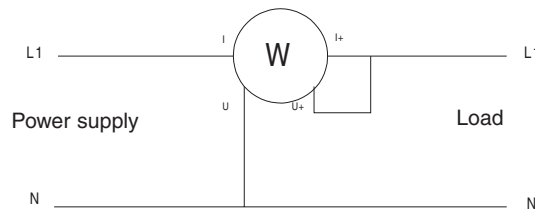
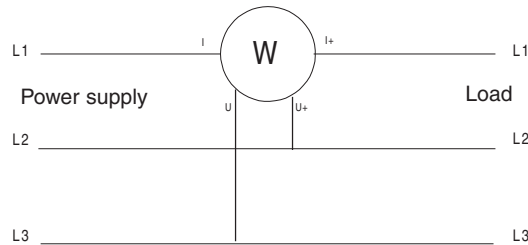

Fig 4.4.1 Single-phase connection diagram
Fig 4.4.2 Three-phase/balanced wires (T3FE) connection diagram (PX 120 only)
Set up as indicated in the connection diagrams in Fig.4.4.1 (single phase) or Fig.4.4.2 (balanced three-phase, T3FE only PX 120), depending on the case, making sure if possible that the maximum acceptable limits are not exceeded (see table below).
3. Set up as indicated in the connection diagrams in Fig.4.4.1 (single phase) or Fig.4.4.2 (balanced three-phase, T3FE only PX 120), depending on the case, making sure if possible that the maximum acceptable limits are not exceeded (see table below).
3. Set up as indicated in the connection diagrams in Fig.4.4.1 or Fig.4.4.2 (T3FE only PX 120), depending on the case, making sure if possible that the maximum acceptable limits are not exceeded (see table below). Range switching is automatic.